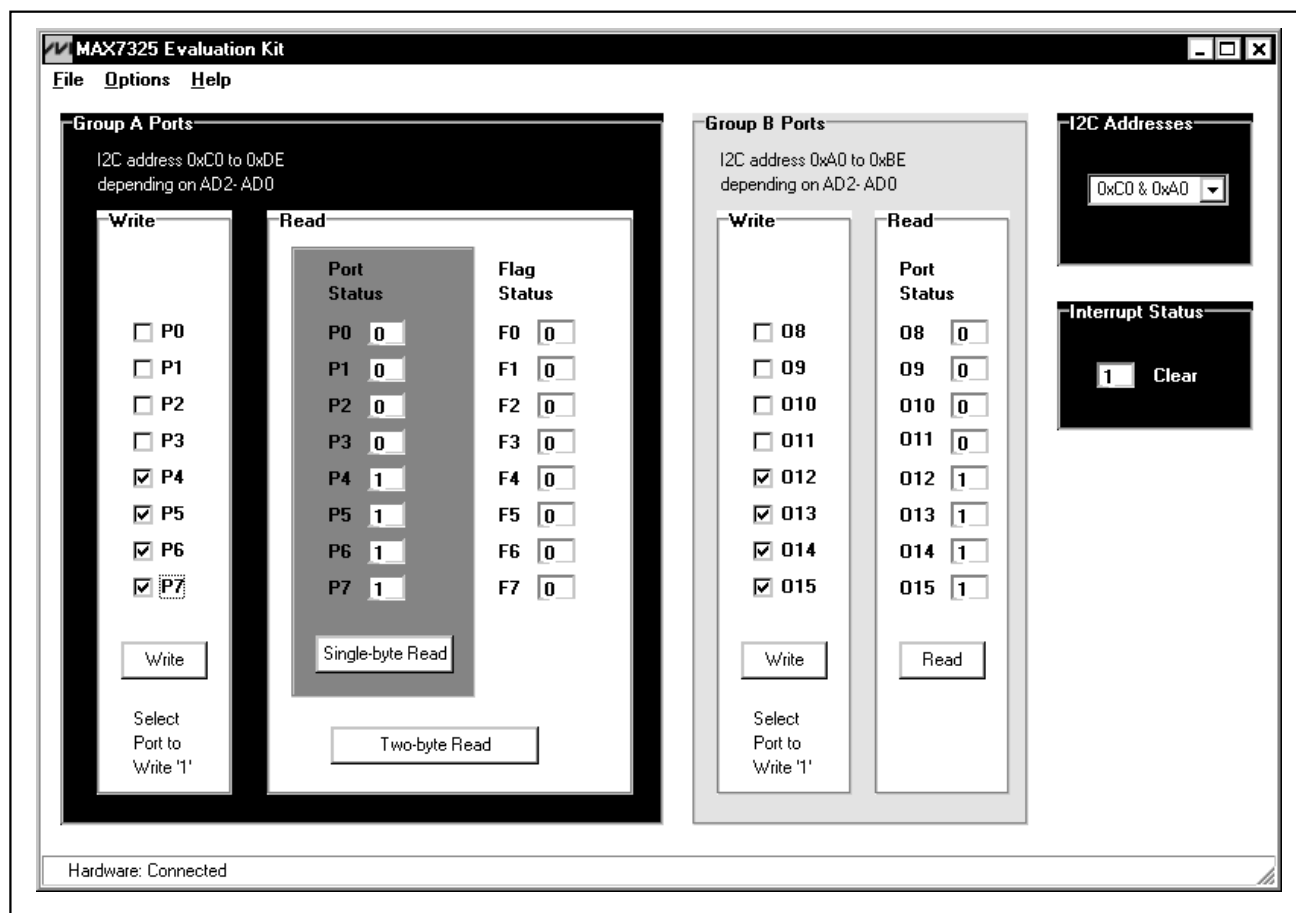

Figure 1. MAX7325 Evaluation Software Main Window
- Start the MAX7325 EV kit software by opening its icon in the **Start** menu. The GUI main window will appear, as shown in Figure 1.
To start the MAX7325 EV kit software, double click the MAX7325 EV kit icon that is created during installation. The GUI main window appears, as shown in Figure 1.
The **Group A Ports** group box shown in Figure 1 contains the **Write** group box and the **Read** group box. The **Read** group box consists of two sections: **Port Status** and **Flag Status**.